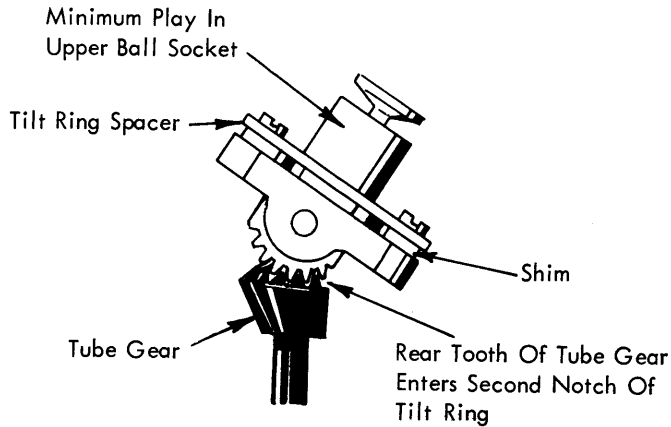

FIGURE 35. Upper Ball Socket Adjustment
The tilt ring can easily be removed if the machine is half cycled to a two tilt position. On machines prior to the gearless tilt mechanism, care should be taken to insure that the tilt sector gears are properly meshed whenever the tilt ring is installed. The rear tooth of the tube sector gear should enter the second notch of the tilt ring sector gear (Fig. 35).
4. Upper Ball Socket - The upper ball socket must rotate completely free of binds with little or no up and down play. The adjustment is made by raising or lowering the tilt ring spacer by installing thicker or thinner shims at the front and rear (Fig. 35).